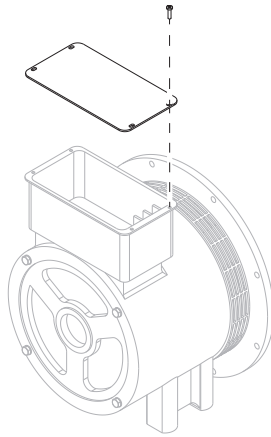

Figure 10 - Generator Box Cover
- a. See Figure 10. Remove generator box cover. Retain cover and hardware.
8. See Figure 10. Install generator box cover with hardware removed in step 4a of Remove Old Control Box.